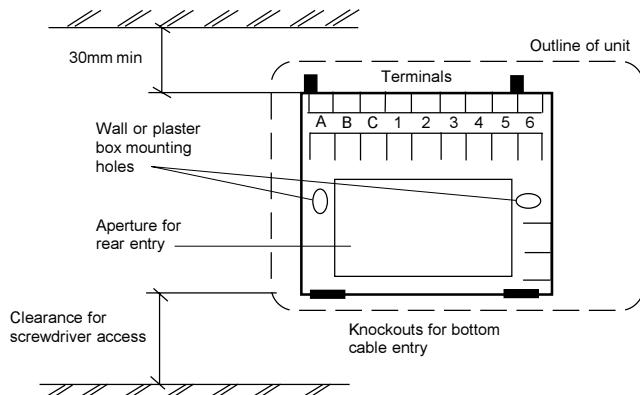

Fig. 3 Wallplate fixing clearances.
2. When fixing the heating controller wallplate note that the terminals are at the top and the vertical centre line of the heating controller is at the right hand edge of the terminal 4 recess. Observe the clearance required for fitting and removal, Fig. 3.